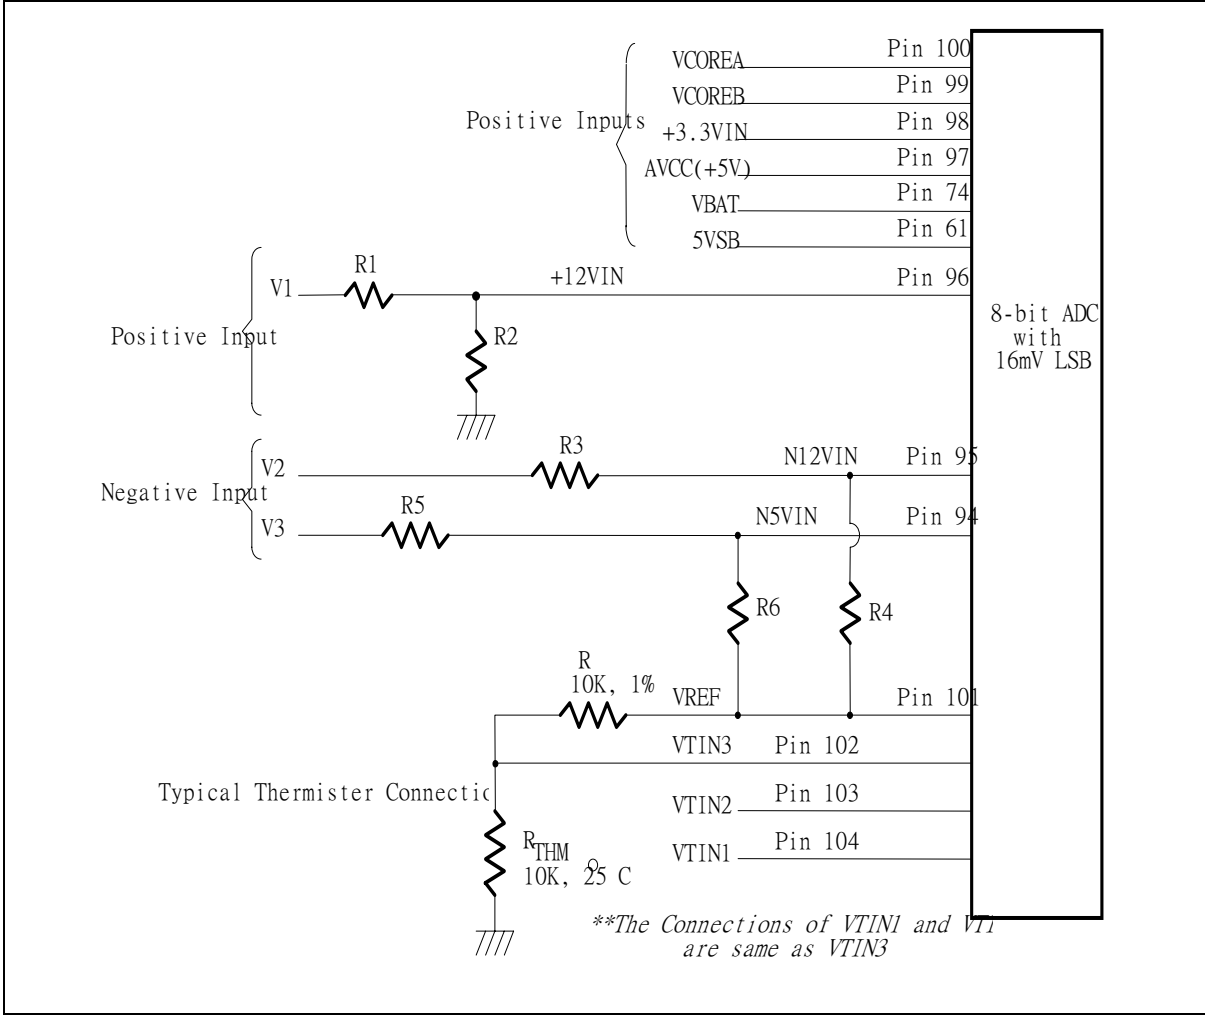

Figure. 9.2
The maximum input voltage of the analog pin is 4.096V because the 8-bit ADC has a 16mv LSB. Really, the application of the PC monitoring would most often be connected to power suppliers. The CPU V-core voltage, +3.3V, battery and 5VSB voltage can directly connected to these analog inputs. The +12V, -12V and -5V voltage inputs should be reduced a factor with external resistors so as to obtain the input range. As Figure 9.2 shows.
The negative voltage should be connected two series resistors and a positive voltage VREF (is equal to 3.6V). In the Figure 9.2, the voltage V2 and V3 are two negative voltage which they are -12V and -5V respectively. The voltage V2 is connected to two serial resistors then is connected to another terminal VREF which is positive voltage. So as that the voltage node N12VIN can be obtain a posedge voltage if the scales of the two serial resirtors are carefully selected. It is recommended from Winbond that the scale of two serial resistors are R3=232K ohms and R4=56K ohm. The input voltage of node N12VIN can be calculated by following equation.
The W83697HF can connect three thermistors to measure three different envirmnt temperature. The specification of thermistor should be considered to (1)  $\beta$  value is 3435K, (2) resistor value is 10K ohms at 25°C. In the Figure 9.2, the themistor is connected by a serial resistor with 10K Ohms, then connect to VREF (Pin 101).